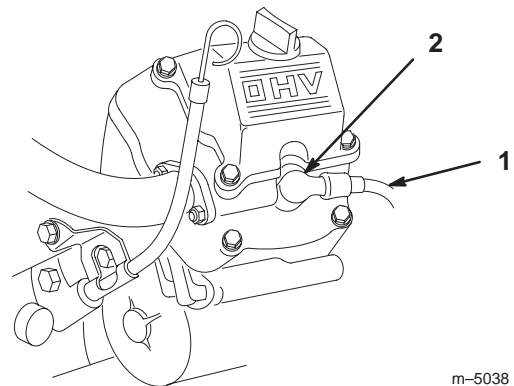

Figure 42
2. Clean around the spark plug(s) to prevent dirt from falling into the engine and potentially causing damage. Pull the wire(s) off of the spark plug(s) (Fig. 42).
3. Push the wire(s) onto the spark plug(s) (Fig. 42).